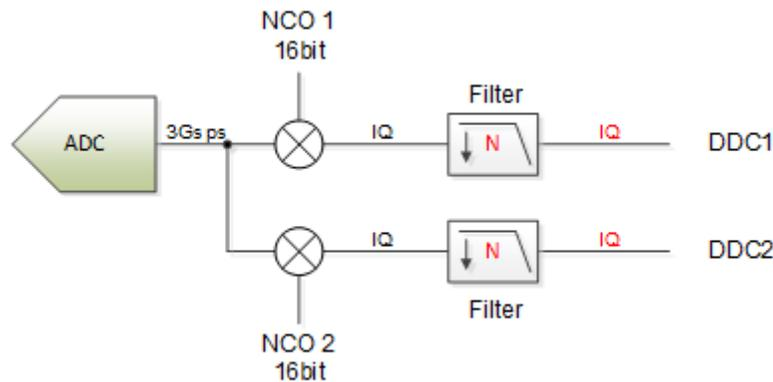

Figure 2. Dual-DDC Block Diagram
The DDC incorporates the mixer and decimation function. A numerically controlled oscillator (NCO) provides the mixer's local oscillator (LO) frequency. A single DDC generally captures a single frequency band. But what if you need to capture multiple bands? Additional DDCs are the answer. Figure 2 illustrates an RF sampling ADC with two DDCs.